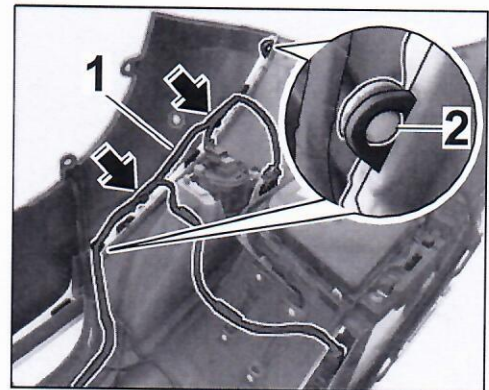

Figure 13
- 2.5.2 Fit two expansion rivets (at the left ⇒ *Figure 13* -**inset**-/right).
- 2.5.3 Fit wire harness on the front apron (at the left ⇒ *Figure 13* -**Arrows**-/right).